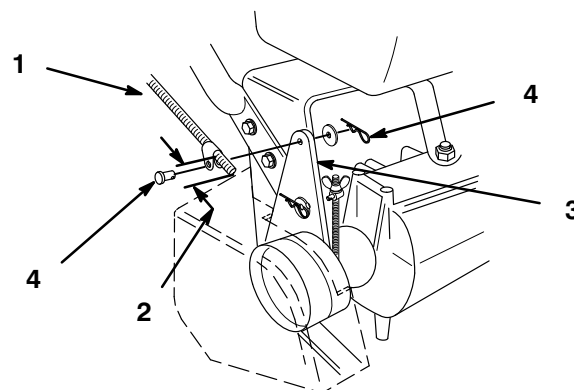
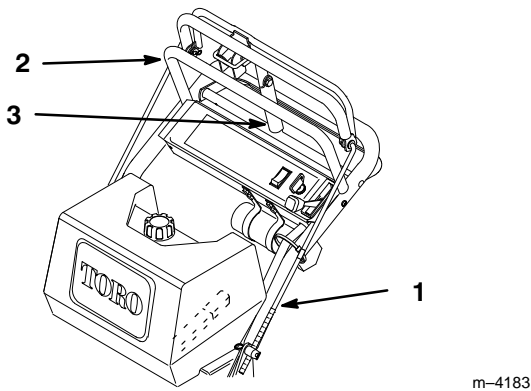

Figure 7
Figure 8
1. Thread a rod fitting onto each control rod approximately 2 in. (51 mm) (Fig. 7) or until upper control bar (Fig. 8) is approximately perpendicular to the ground.
2. Mount rod fitting ends to mounting holes in idler brackets (from outside) with clevis pins, washers and hairpin cotter (Fig. 7).
3. Check gap between upper control bar and upper handle when fully engaging wheel belts. Gap should be approximately 1 to 1-1/4 in. (25–32 mm) (Fig. 8).
5. Brake rods should be adjusted so parking brake lever can be swung into a snug position against the upper handle while pulling back on upper control bar (Fig. 8).